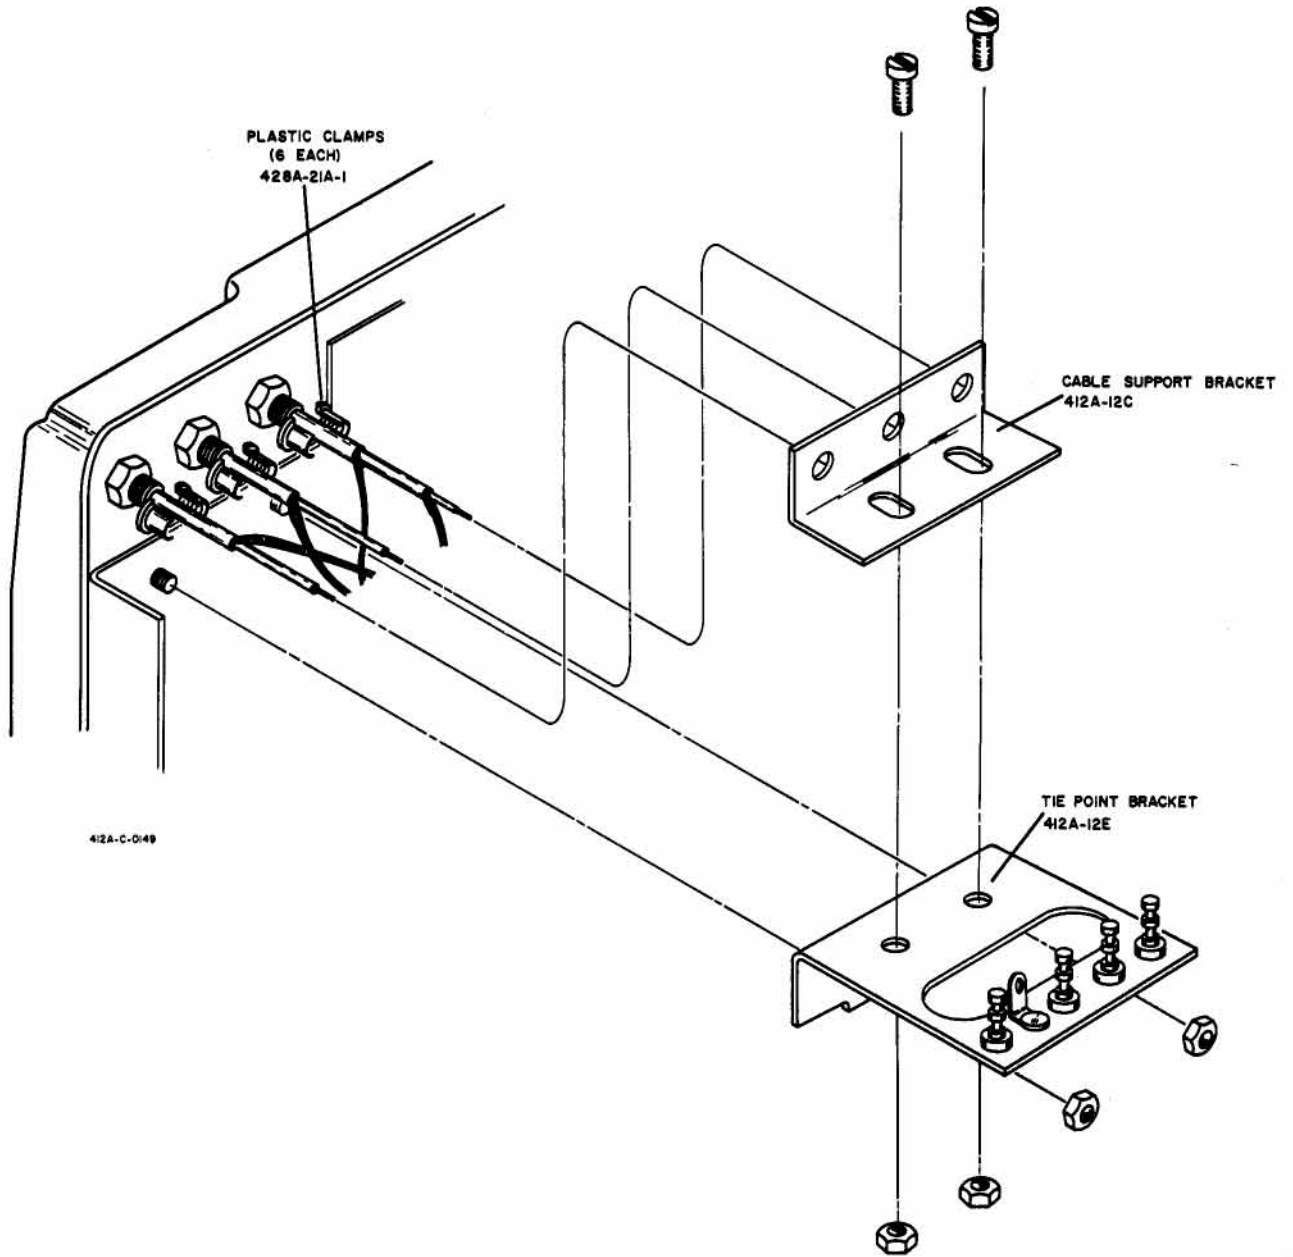

Figure 3
6. Remove old tie point bracket from chassis and discard (see Figure 3).
7. Bolt new tie point bracket to chassis as illustrated in Figure 3.
8. Feed input cables through holes in the cable support bracket provided. There are two brackets included with this kit; one to be used with cabinet models, the other with rack models. Adjust cable clamps around the input cables and seat in place as illustrated in Figures 3 and 4. Insure that at least two inches of cable is available to rear of plastic clamps.
9. When plastic clamps are firmly seated, bolt cable support bracket to tie point bracket as shown in Figures 3 and 4. Insure that forward face of plastic cable clamp fits firmly against rear end of cable boot mounting studs as shown in Figures 3 and 4.